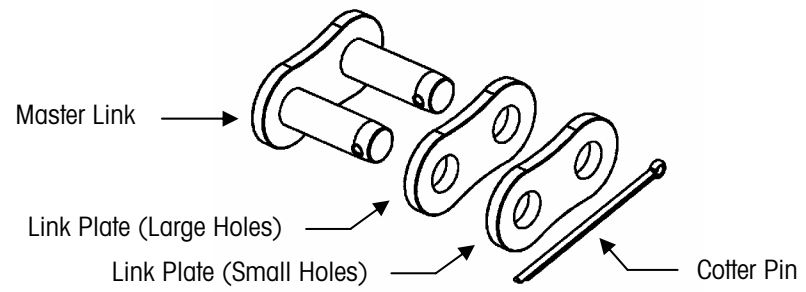

Figure 6-11: Master Link Assembly
12. Remove the cotter pin from the master link that secures the load cell to the chain mount (See Figure 6-11). Take apart the master link, using a C-clamp or similar device to press the master link through the link plates. Do not use a hammer or other tool to strike the master link. It could damage the link.
1. Use a master link to connect the new load cell to the chain. The chain should be connected to the top of the load cell (the end opposite the load cell cable). Assemble the master link as shown in Figure 6-11. Using a C-clamp or similar device, press the master link assembly together just enough so that you can insert the cotter pin in the holes. If the link is too tight, it can bind against the load cell and chain.
2. Use a master link to connect the other end of the load cell to the chain mount. Make sure that the load cell cable is facing away from the bolt holes in the chain mount. Assemble the master link as shown in Figure 6-11. Using a C-clamp or similar device, press the master link assembly together just enough so that you can insert the cotter pin in the holes. If the link is too tight, it can bind against the load cell and chain mount.